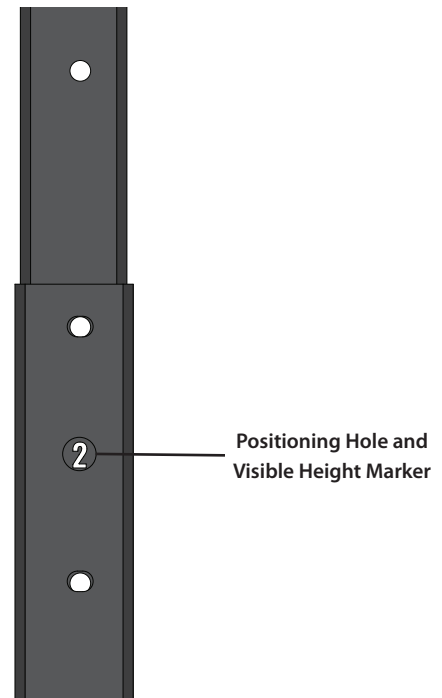
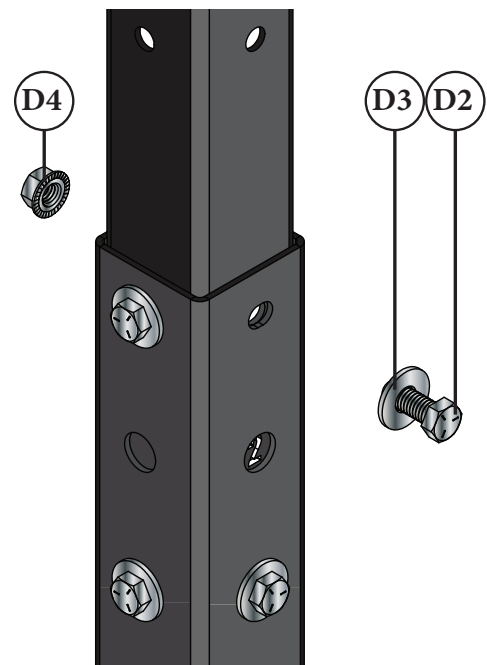

FIG. 2a
FIG. 2b
Identify the positioning hole on each of the Bottom Legs (B) and then slide a Top Leg (A) into each of the Bottom Legs until the desired height marker (#1, 2, or 3) is visible inside the positioning hole [FIG. 2a]. Secure the Legs together using four Bolts (D2), four Washers (D3), and four Whiz-Nuts (D4) installed above and below the positioning hole [FIG. 2b].